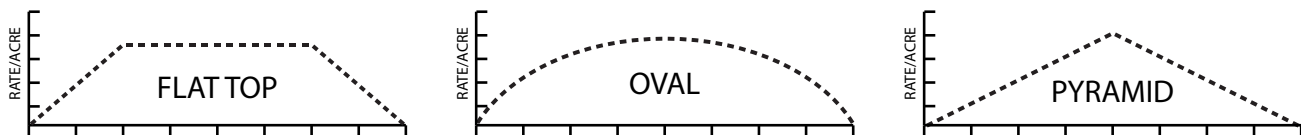
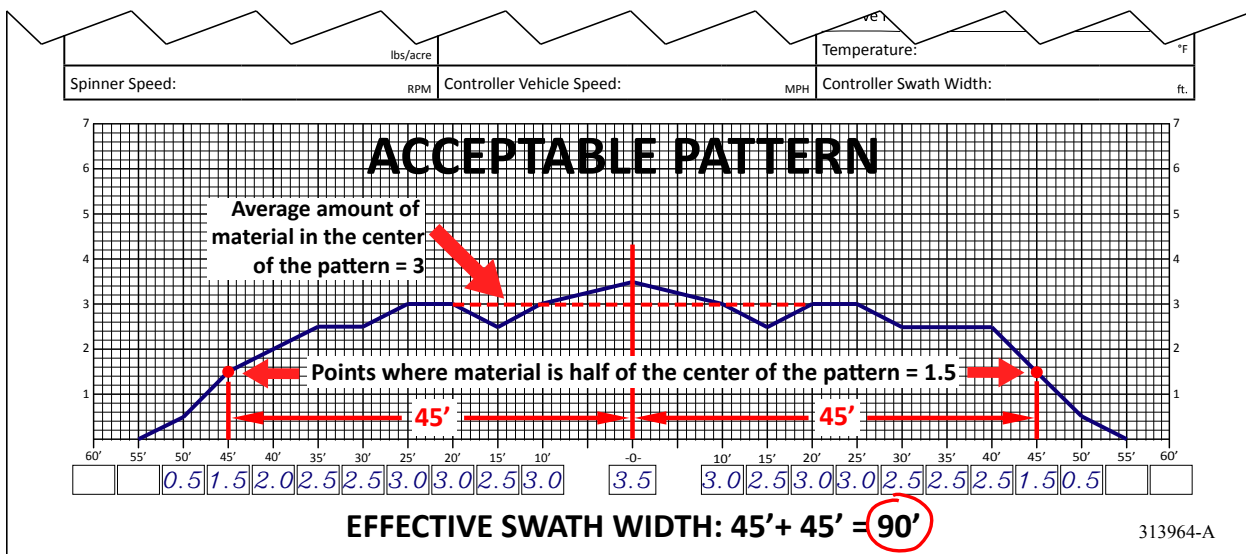
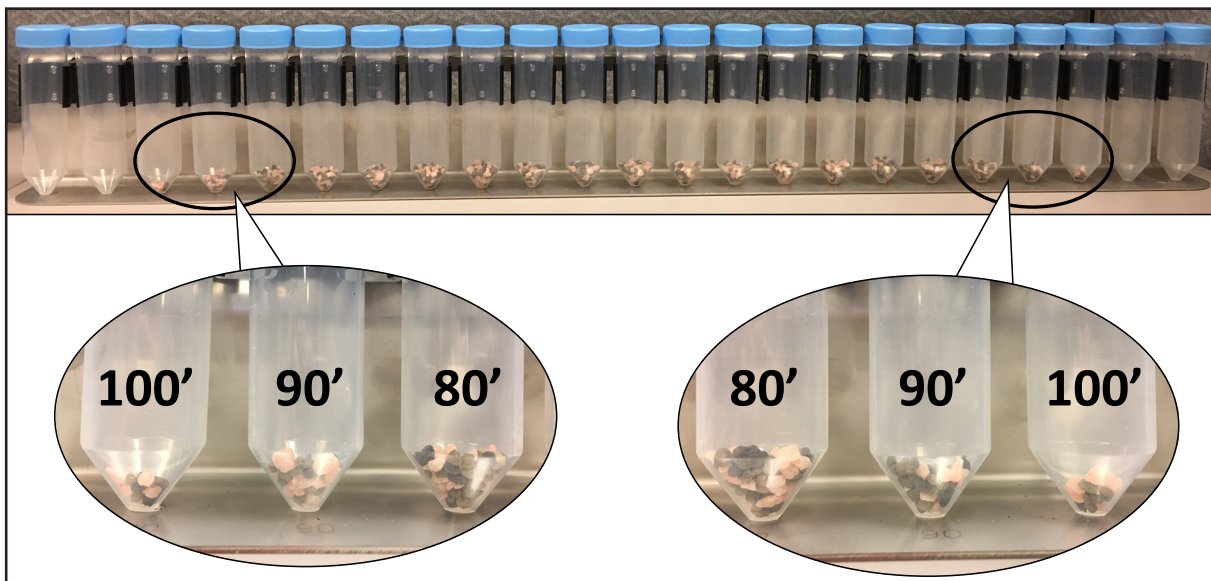

Figure 5 – Acceptable Patterns
Figure 8 - Effective Swath Width
Figure 9
5. Looking at the material in the test tubes and the graphed profile on the data sheet, compare the overall shape of the spread pattern to the three acceptable patterns, shown in Figure 5. If an acceptable pattern has not been achieved, proceed to "Troubleshooting".
Once an acceptable pattern is obtained, as shown in Figure 5, driving centers can be determined. To determine optimum driving centers (effective swath width), determine the average amount of material in the center of the pattern. Figure 8 shows an example data sheet recorded from the profile shown in Figure 9. Based on the example, the average amount of material in the center of the pattern is 3.0, as indicated with the red dotted line.
Next, locate the points on both the left and right side of the pattern where the amount of material is half the average amount at the center of the pattern. In the example shown in Figure 8, these points are located 45' to the left of center, and 45' to the right of center. The distance between these two points (90') represents the driving centers to use.